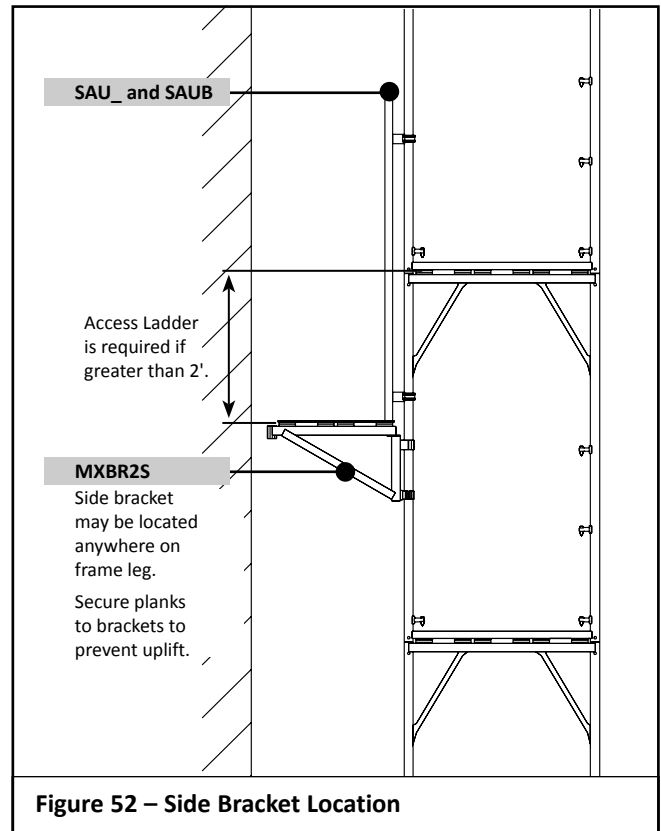

Figure 52 – Side Bracket Location
- When used at a location on a leg other than the top of a frame (Fig. 52), position the bracket (MXBR2S) at the desired height and tighten the clamp.